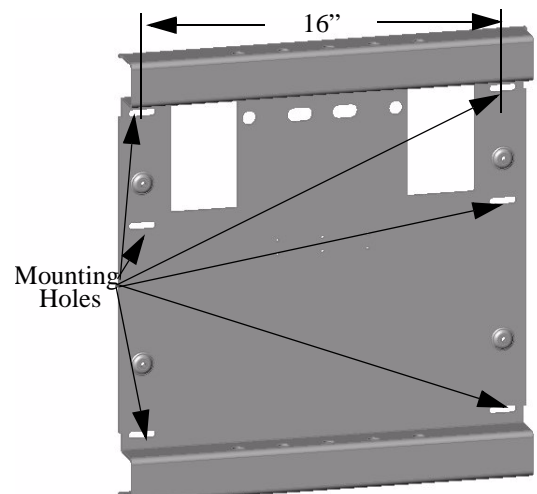

Figure 2. Mounting Holes
4. With the mount correctly oriented and level, secure the mount to the wall using two fasteners (not included) in the top mounting holes (see Figure 2). Fasteners must be driven into the supporting wall studs or other supporting framework.